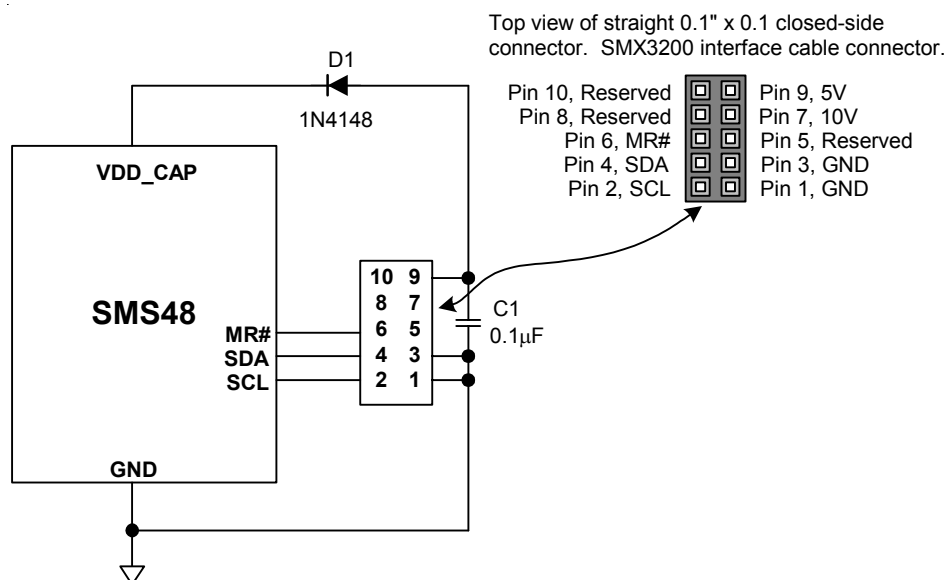

Figure 6 - SMX3200 Programmer I²C serial bus connections to program the SMS48.
The Windows GUI software will generate the data and send it in I²C serial bus format so that it can be directly downloaded to the SMS48 via the programming Dongle and cable. An example of the connection interface is shown in Figure 6.
2. Connector J1 is an SMX3200 (see Figure 6).